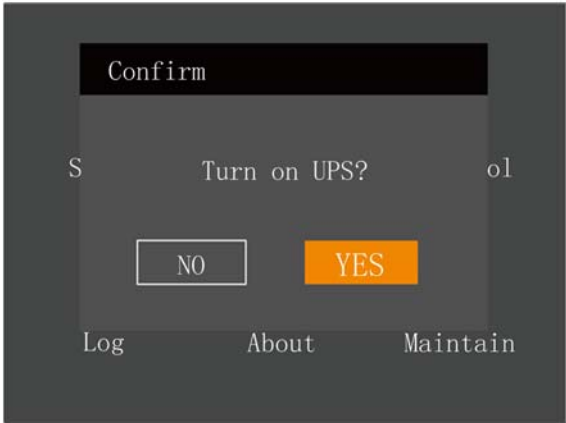

Figure 5-5 Switching the UPS on
4. After setting up the corresponding parameters, press the power button for two seconds so that the dialogue box shown in Figure 5-5 appears on the LCD screen.